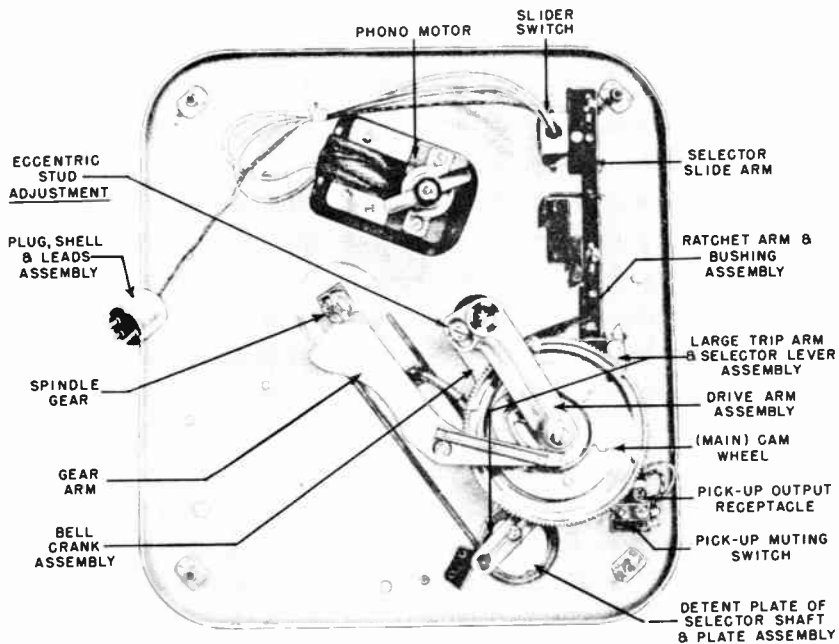

Figure MT10.
3. Push Off Or Record Drop: If record is not pushed off record shelf, check push off lever. It should protrude at least $1/32$ " from record support. If it does not, proceed with the following adjustments: (a) remove cabinet back to gain access; (b) turn reject lever and rotate turntable by hand until push off lever protrudes at its maximum point; (c) turn record push off adjustment screw until push off lever protrudes $1/32$ " beyond record support. (Figure MT10)